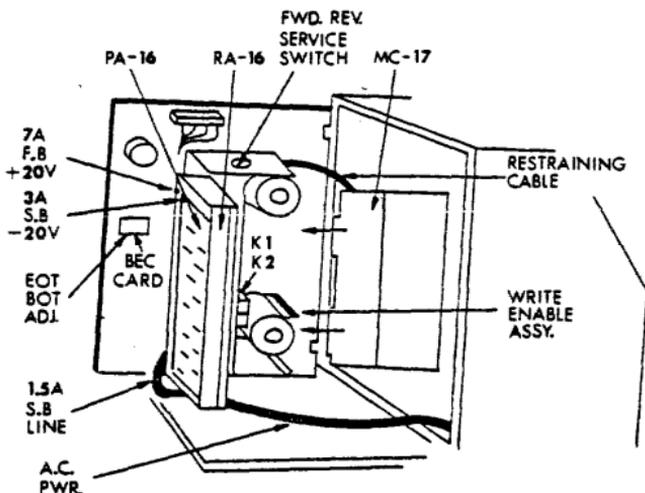
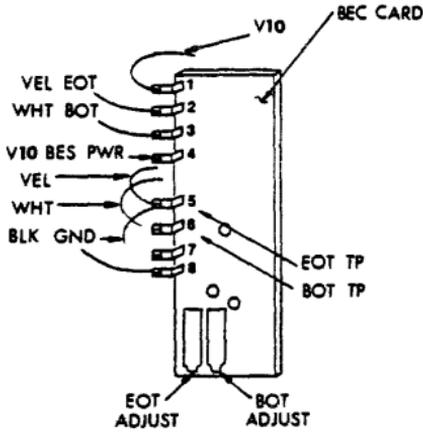

FIGURE 2
FIGURE 5
- Check all three fuses visually. (Refer to Figure 2)
- Warm up for at least (1) minute.
- Locate the three-position service switch (see Figure 2) and run the tape forward away from the BOT mark.
- Refer to Figure 2 for BEC card location and check the voltage from ground to the EOT and BOT test points. It should be about 8.0 volts. If you use black tape it should be about 9.0 volts. See Figure 5 for EOT/BOT test point locations.